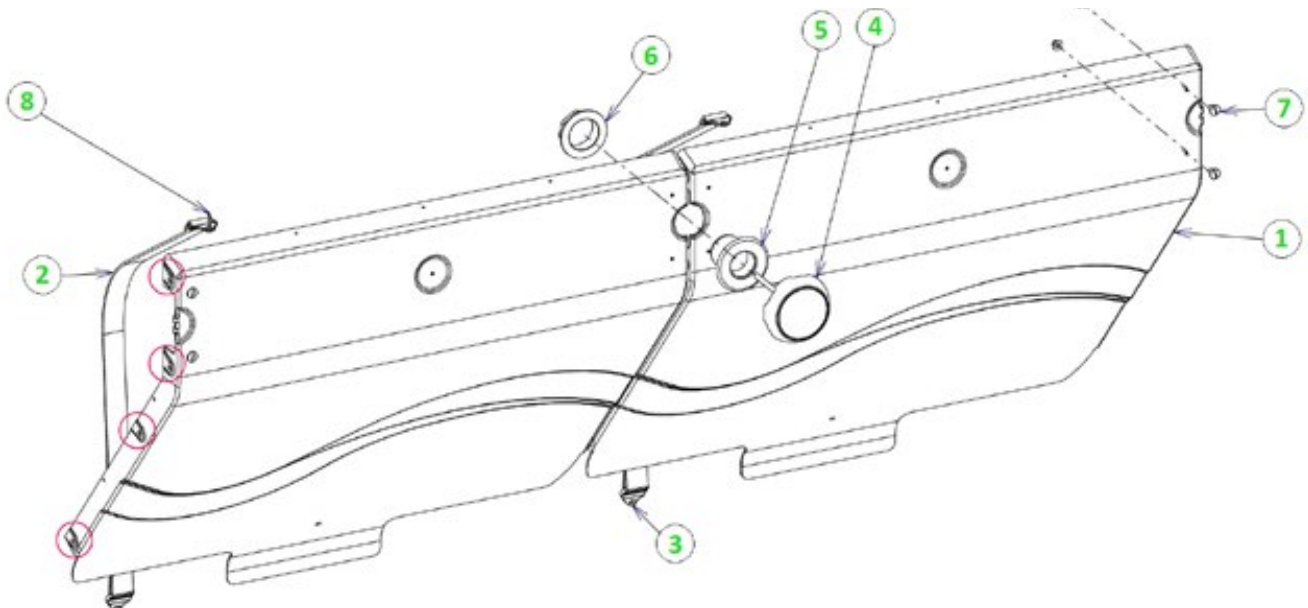

Figure 42 – Installing the pit wall and underwater light
The beam assembly steps are illustrated in Figure 42. The screws required for assembly are enclosed in bag Y. In this figure, the wooden wall is located between parts 7 and 8, and the liner is sandwiched between the two rubber gaskets (7).
Fasten the two pit wall mounting brackets (12) to the beam mounting plates (5) using four screws (14) and four 8 mm diameter A4 SS washers (13). The protruding parts of the pit wall mounting brackets (12) that feature a slot should be located on the same side of the beam (see the zoom in Figure 42).
Lastly, fasten the pit wall to the brackets (part 12 in Figure 42) using four 8 × 16 stove screws (7), four washers and four 8 mm diameter A4 SS nuts.